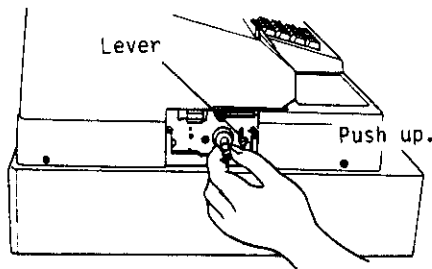

Fig. 3
4. Insert a new Ink Roll into the hole, push it all the way in, and push up the lever (Fig. 3).
### CDC (Cash Drawer Cover) LOCK (Fig. 3)